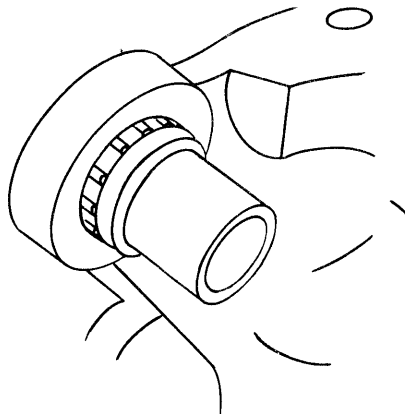

Fig. 3
- Fit the small end needle cage and insert the wrist pin in it (fig. 3).